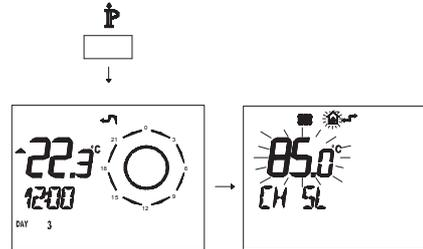

Figure 15.31
- Press the button P for more than 3 seconds to enter the mode *INFO* (Figure 15.31).